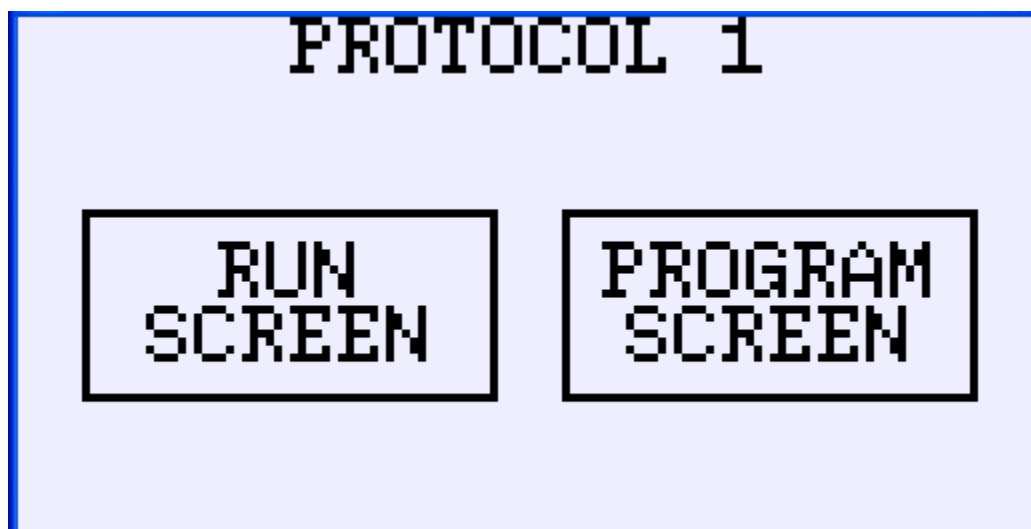

Figure 14
Touch any of the four protocol buttons to bring up that protocol's run/program screen (Figure 14).
To change the protocols program touch the **PROGRAM SCREEN** function button on the protocol run/program screen (Figure 14) and see the **Program Protocol Screens** section below.
10. Press the Back function button to return to that protocol's run/program screen (Figure 14). The screen can now be used to run your new protocol.